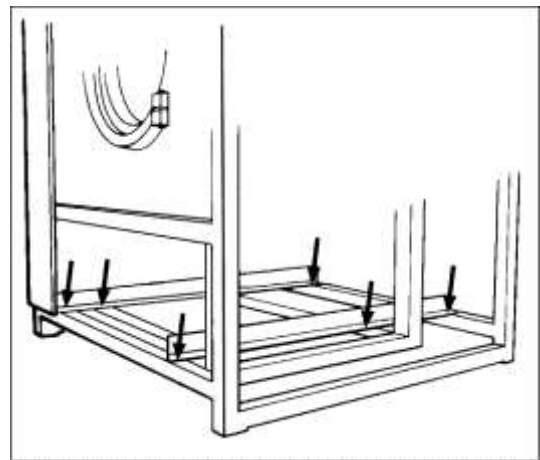

Fig. 2.8
- Locate on the chassis base the two yellow fixing profiles and dismantle them. The profiles are secured with screws (**Fig. 2.8**).